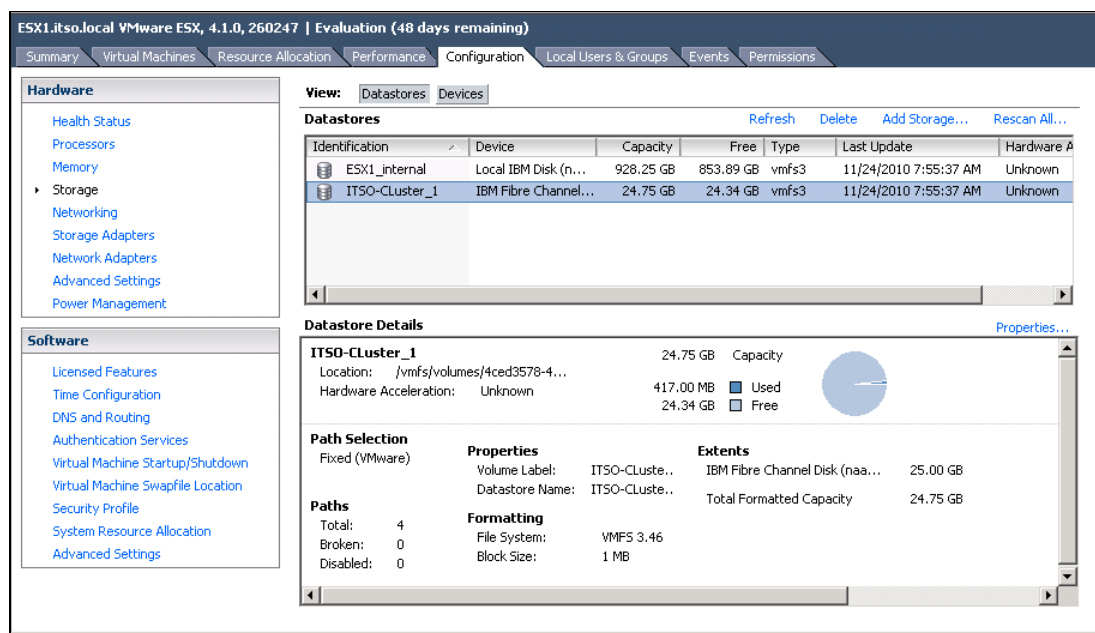

Figure 12-42 Add Storage task complete
6. Follow the wizard to complete the attachment of the disk. After you click **Finish**, the wizard closes and you return to the storage view. In Figure 12-42, you see that the new volume has been added to the configuration.